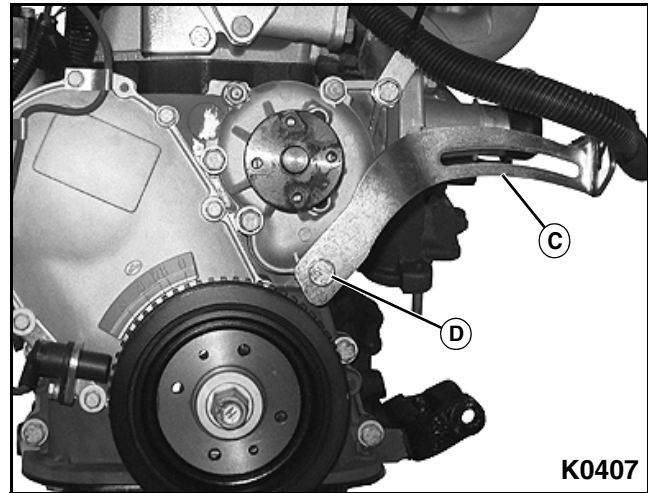

Figure 3-6
6. Install upper alternator mounting bracket (C) with bolt (D). Do not tighten bolt at this time. **See Figure 3-6.**